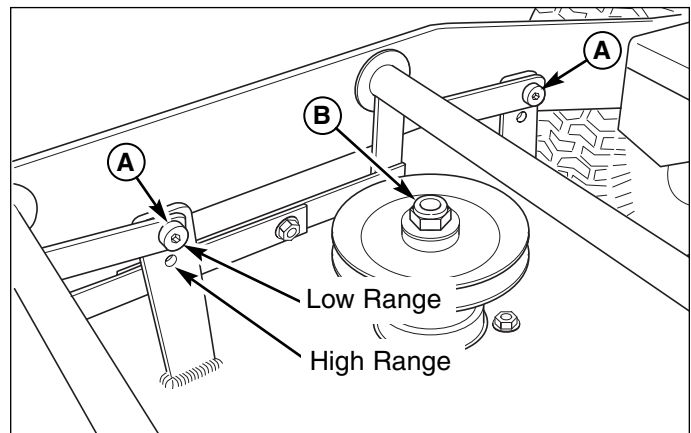

Figure 11. Pulley & Pivot Position
2. Remove the spindle nut (B, Figure 11) fastening the pulley to the spindle. Remove the pulley and key. Move the pulley spacers into the proper position in relation to the cutting range. Reinstall the pulley and key. Reinstall the nut and torque to 85-90 ft. lbs. (115-122 Nm).
3. Remove the pivot bolts and nuts (A, Figure 11) and reinstall the proper position in relation to the cutting range. Reinstall the bolts and nuts and tighten securely.